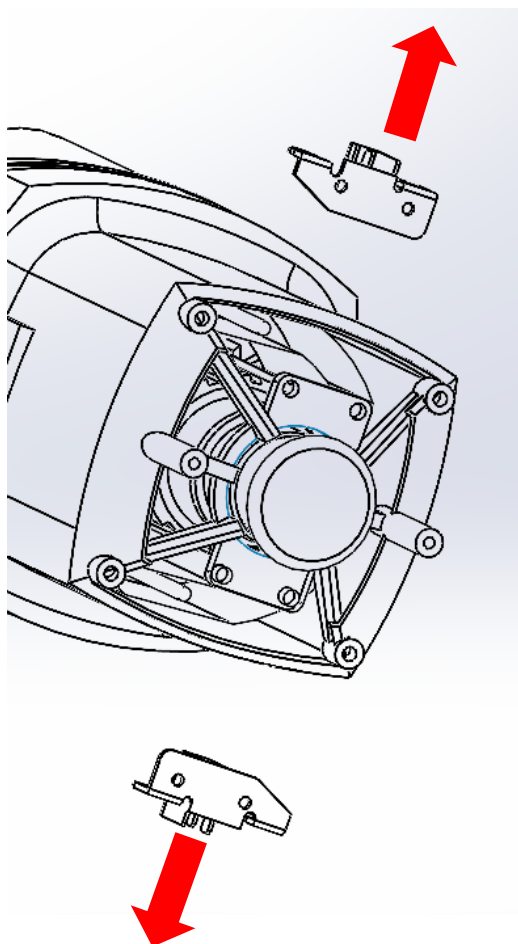

Figure 2.11
2.4.3 Proceed to remove the brush holders as in figure 2.11.